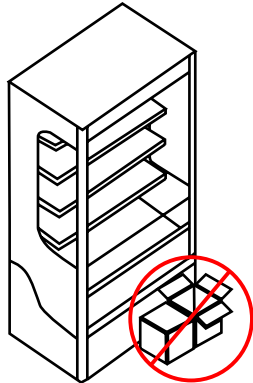

Figure 5
- Do not block the lower ventilation grille with the packages about to be loaded. (Fig. 5)